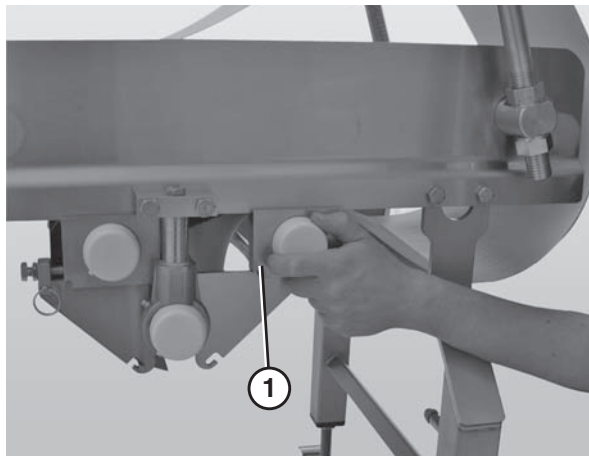

Figure 17
4. Slide the tension spindle assembly (Figure 17, item 1) out of the housing.
9. Slide the tension spindle assemblies (Figure 17, item 1) back into the housing.